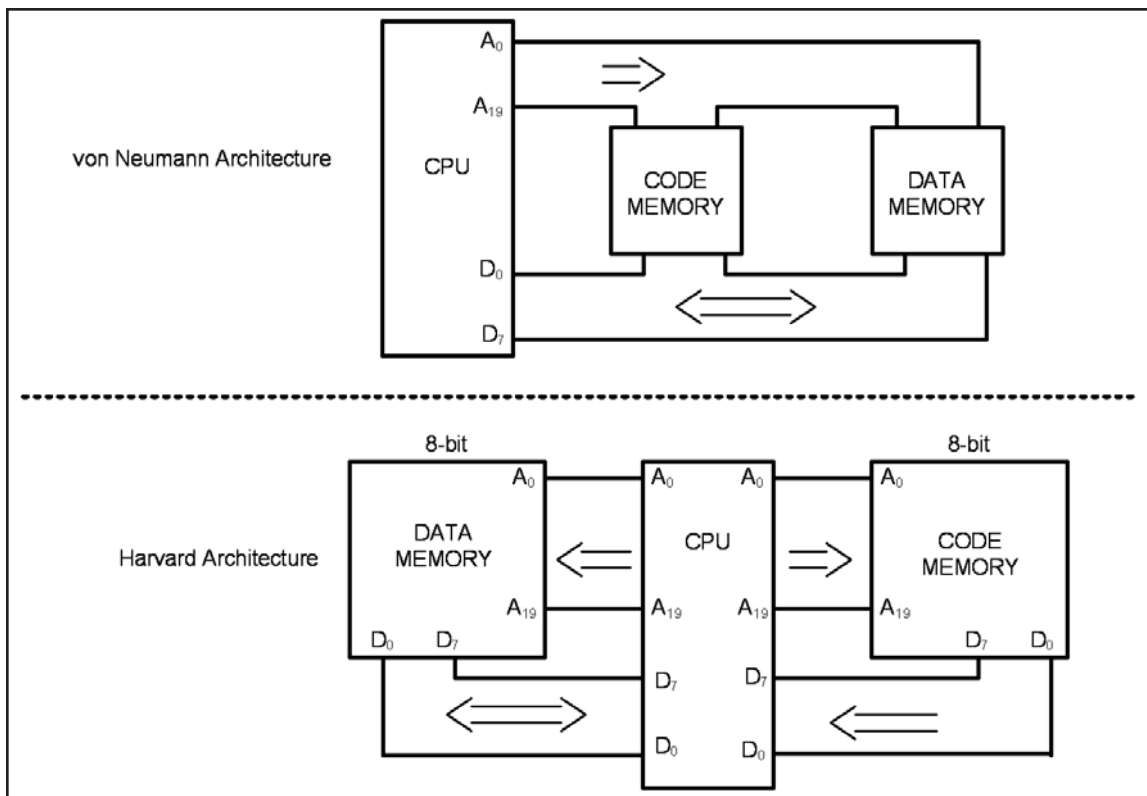

Figure 0-20. von Neumann vs. Harvard Architecture
Every microprocessor must have memory space to store program (code) and data. While code provides instructions to the CPU, the data provides the information to be processed. The CPU uses buses (wire traces) to access the code ROM and data RAM memory spaces. The early computers used the same bus for accessing both the code and data. Such an architecture is commonly referred to as *von Neumann (Princeton) architecture*. That means for von Neumann computers, the process of accessing the code or data could cause them to get in each other’s way and slow down the processing speed of the CPU, because each had to wait for the other to finish fetching. To speed up the process of program execution, some CPUs use what is called *Harvard architecture*. In Harvard architecture, we have separate buses for the code and data memory. See Figure 0-20. That means that we need four sets of buses: (1) a set of data buses for carrying data into and out of the CPU, (2) a set of address buses for accessing the data, (3) a set of data buses for carrying code into the CPU, and (4) an address bus for accessing the code. See Figure 0-20. This is easy to implement inside an IC chip such as a microcontroller where both ROM code and data RAM are internal (on-chip) and distances are on the micron and millimeter scale. But implementing Harvard architecture for systems such as x86 IBM PC-type computers is very expensive because the RAM and ROM that hold code and data are external to the CPU. Separate wire traces for data and code on the motherboard will make the board large and expensive. For example, for a Pentium microprocessor with a 64-bit data bus and a 32-bit address bus we will need about 100 wire traces on the motherboard if it is von Neumann architecture (96 for address and data, plus a few others for control signals of read and write and so on). But the number of wire traces will double to 200 if we use Harvard architecture. Harvard architecture will also necessitate a large number of pins coming out of the microprocessor itself. For this reason you do not see Harvard architecture implemented in the world of PCs and workstations. This is also the reason that microcontrollers such as AVR use Harvard architecture internally, but they still use von Neumann architecture if they need external memory for code and data space. The von Neumann architecture was developed at Princeton University, while the Harvard architecture was the work of Harvard University.